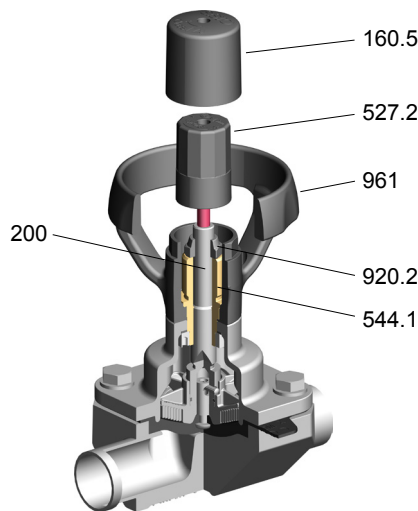

Figure 7: SISTO-C HV.510/.520
5. Mount the cover [160.5] on the handwheel [961] and the locating sleeve [527.2] to secure this setting (see Fig. 7).